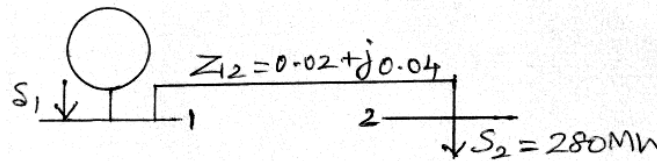

Figure 12 (b)
- (b) In the power system network shown in Figure 12 (b), bus 1 is slack bus with  $V_1 = 1.0 + j0.0$  per unit and bus 2 is a load bus with  $S_2 = 280\text{MW} + j60\text{MVAR}$ . The line impedance on a base of 100MVA is  $Z = 0.02 + j0.04$  per unit. Using Gauss — Seidal method, give  $V_2$ . Use an initial estimate of  $V_2^{(10)} = 1.0 + j0.0$  and perform four iterations. Also find  $S_1$  and the real, reactive power loss in the line, assuming that the bus voltages have converged.